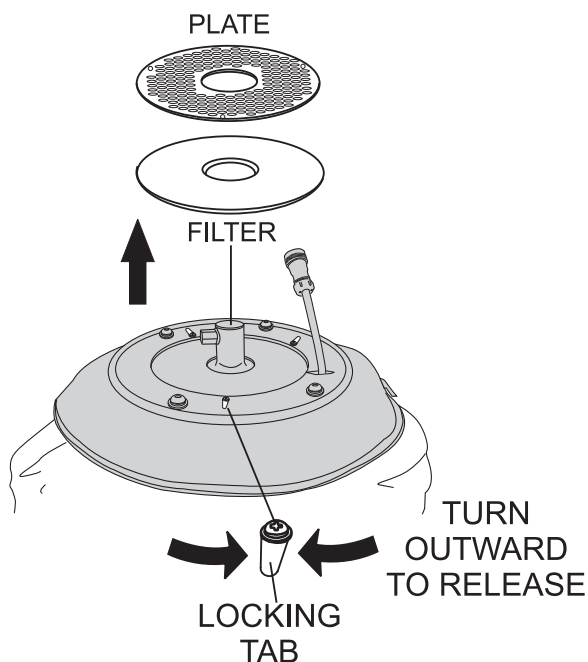

Figure 31. Filter Removal
4. Turn the three locking tabs (Figure 31) inward to release the plate. Remove plate and filter.